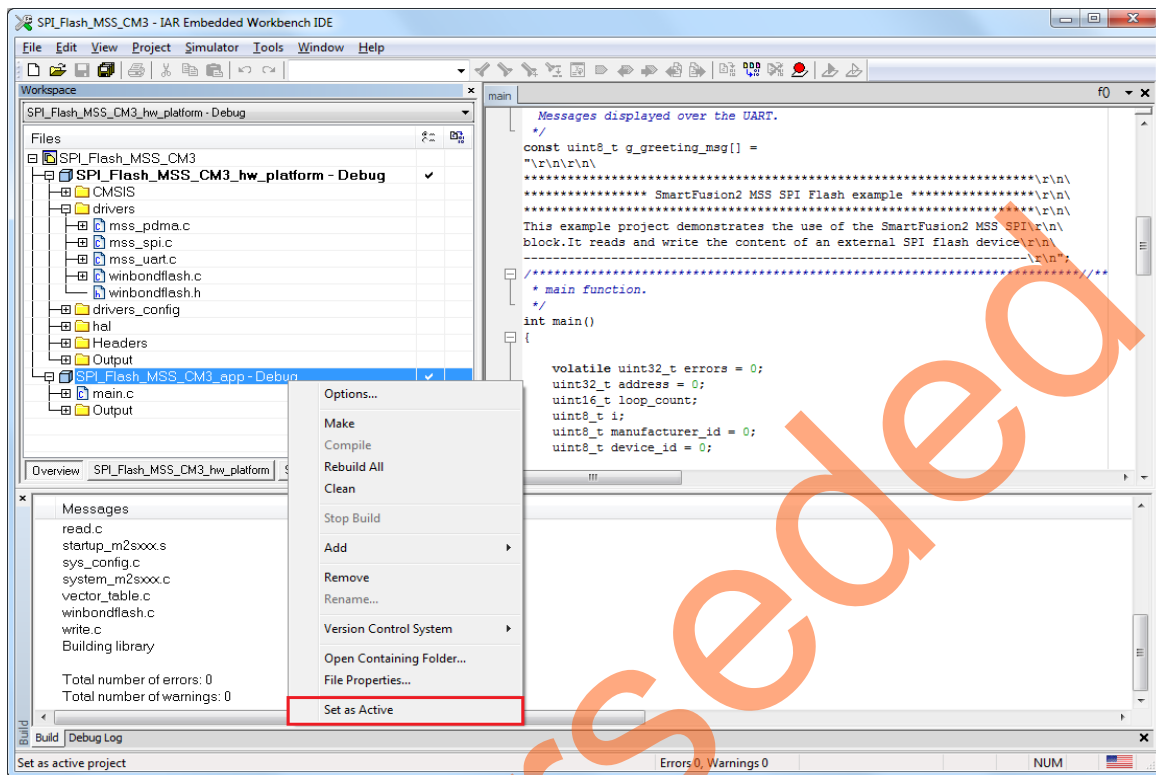

Figure 33 • IAR Workspace - SPI_Flash_MSS_CM3_app Set as Active
18. Right-click **SPI_Flash_MSS_CM3_app - Debug** project name and select **Set as Active** as shown in Figure 33.